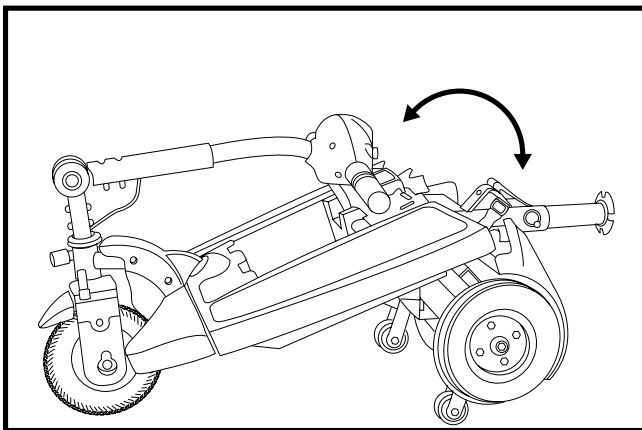

Figure 23. Frame Positioning
1. Push back on the seat post to pivot the rear section backward until it is standing vertically on its end. See figure 23.
3. Holding the seat post, slowly pivot the rear section forward until the curved locking brackets are fully connected onto the top rear pegs. See figure 23.